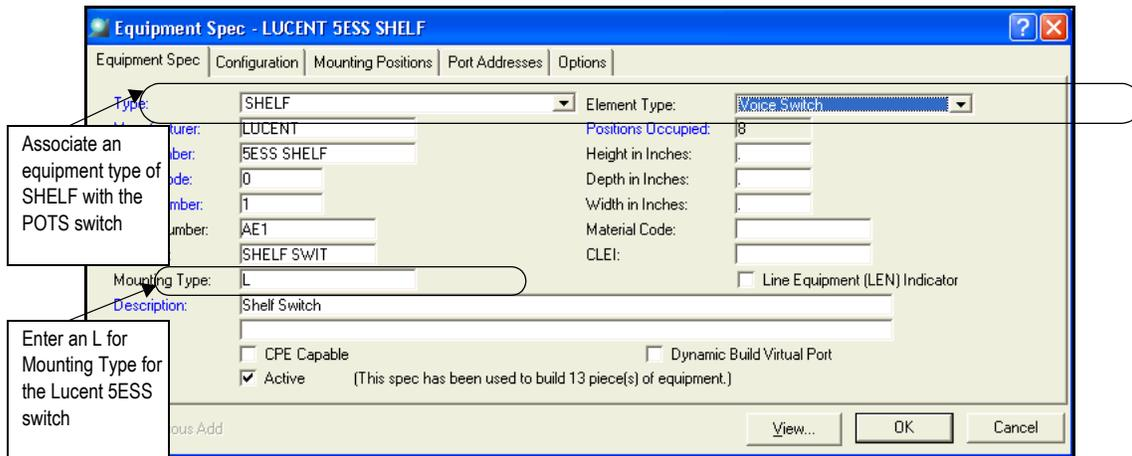

Figure 11: Associating an equipment type of shelf with the equipment spec
- ◆ The Lucent 5ESS switch requires the originating equipment type. The information is required only for this switch and is used by ASAP to determine the correct format of the LEN. This value is L. It is stored in the Mounting Type field of the equipment specification. See Figure 11.